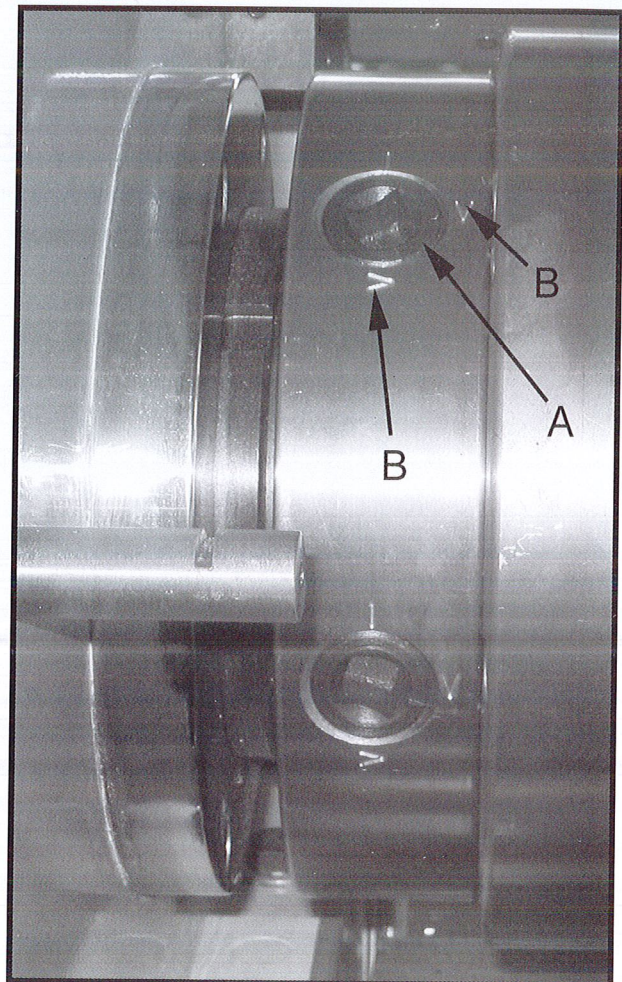

Fig.3
5. Lift the chuck up to the spindle nose and press onto the spindle. Tighten in place by turning the cam locks 1/4 turn clockwise. The index mark (A, Fig. 3) on the camlock should be between the two indicator arrows when tight (B, Fig. 3). If the index mark is not between the two arrows, remove the chuck and adjust the camlock studs by either turning out one full turn (if cams will not engage) or turning in one full turn (if cams turn beyond indicator marks).